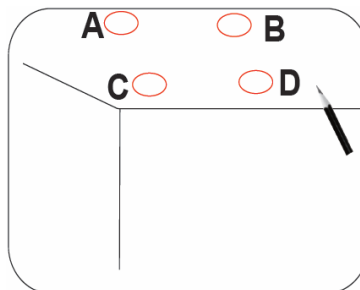

Figure 2.
2. Mark and drill mounting holes and plan for electrical connection to center hole or side entrance points of fixture. **See Figure 2.**